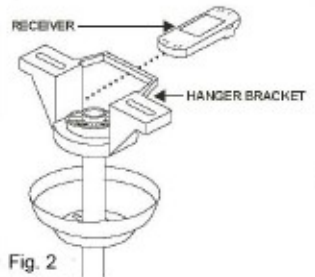

Fig. 2
**Step 1.** Insert Receiver into Hanger Bracket with the flat side of the Receiver facing the ceiling. (Fig. 2)
Do not use fan speed control in canopies where the Mounting is not as described in Fig2 of the installation instructions.